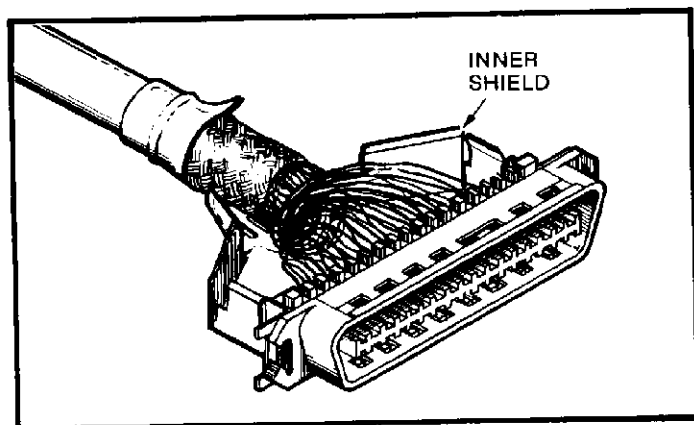

Fig. 6
1. Align connector with inner shield so that connector locator tabs on shield grasp the connector (and the spring fingers protrude through the holes in the plug housing). Dress cable as required to ensure the cable will not be pinched by the outer shield. See Figure 6.